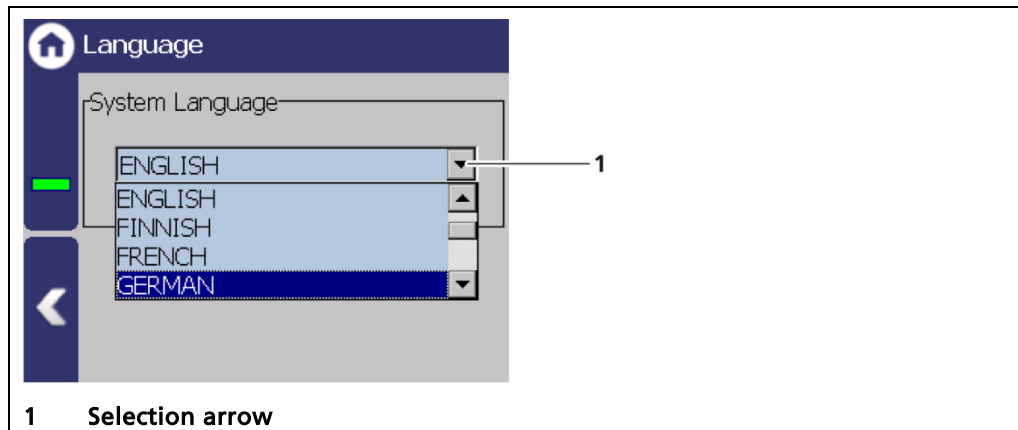

Fig. 48 Language
1. Click on the selection arrow (Fig. 48, item 1) and select a language.